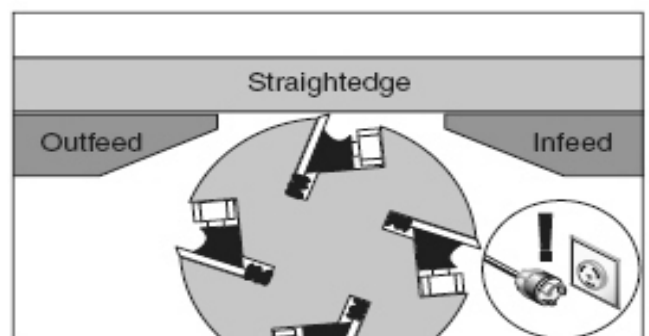

Figure 44. Infeed table even with outfeed table.
3. Use the straightedge to help adjust the infeed table exactly even with the outfeed table, as shown in **Figure 44**.